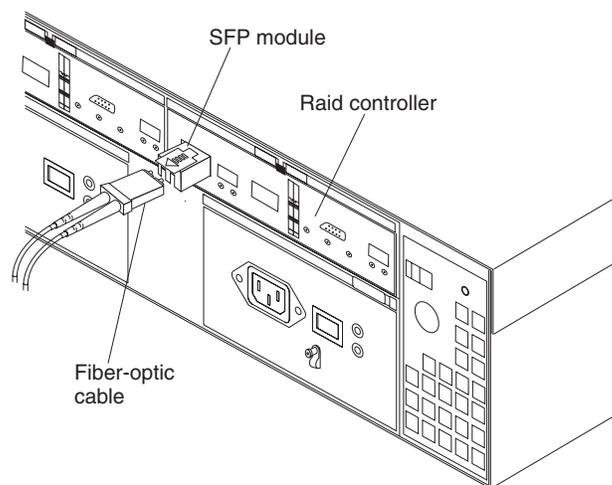

Figure 31. Installing an SFP module into the host port
4. Insert the SFP module into the host port until it clicks into place. See Figure 31.